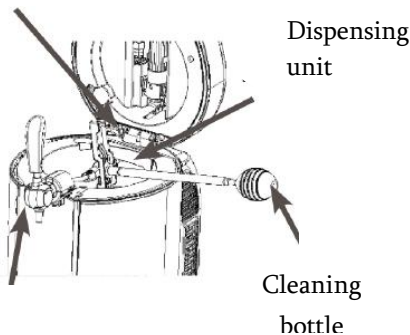
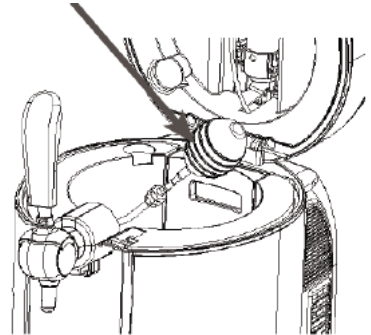

Figure 29
Figure 30
2. And connect the end of piercing pin, press the water into the pin to clean the pin tube, and push the water out from the beer tube at the other end. And repeat this cleaning work till the beer tube clean (need 3 bottles warm water at least); please clean the beer tap mechanism as figure 30. Note: Please disassemble the tap when make the cleaning. (Show as figure 29)